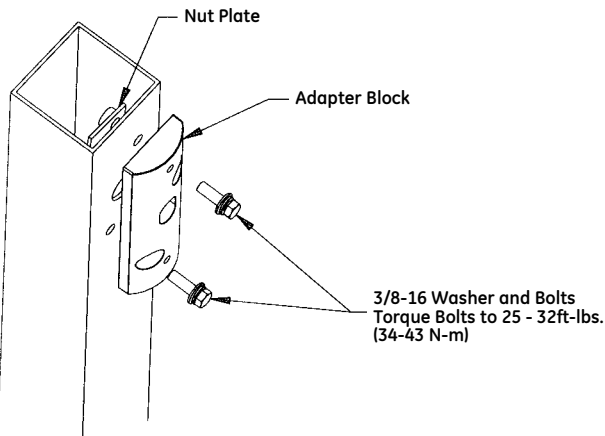

FIGURE 6
- With adapter block end oriented properly, mount adapter block to pole with the nut plate and 3/8-16 bolts and washer supplied as shown. Torque 3/8-16 bolts to 25 - 32ft-lbs (34-43 N-m). (See Figure 6)